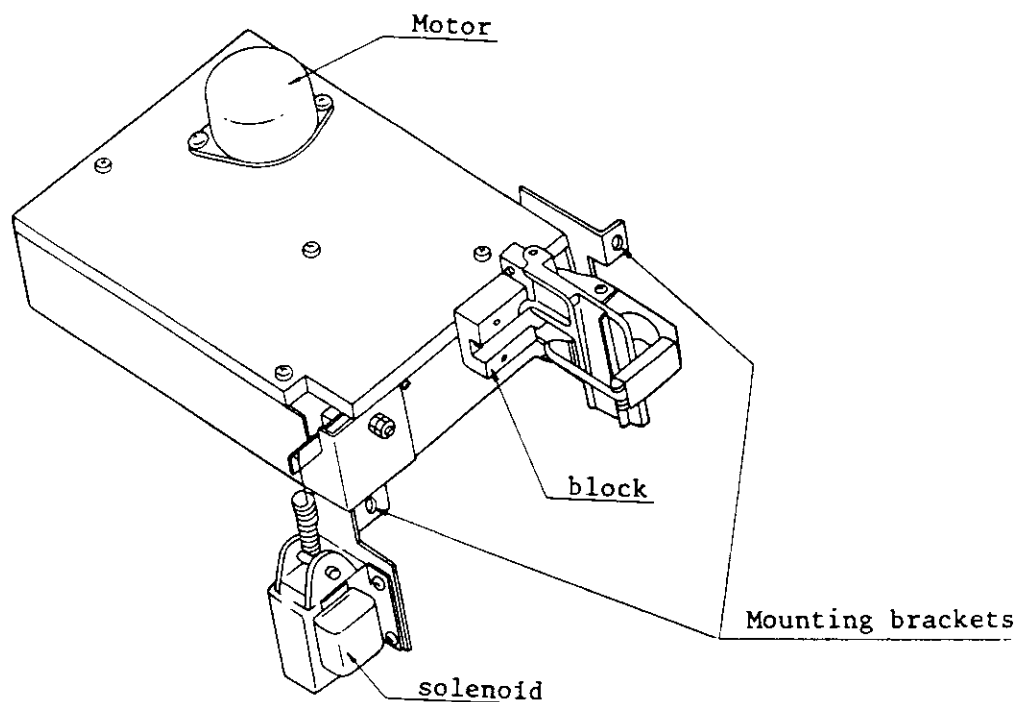

Figure L.7 Auto cleaner
- (1) Disconnect (and tag) the connector from the upper motor. Disconnect (and tag) the connector from the lower motor and solenoid.
- (2) Remove the two screws securing the mounting bracket to the mounting block and remove auto cleaner shown in Figure L.7.